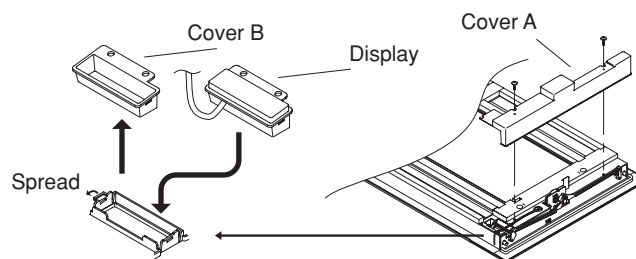

Fig. 11-13
- (1) Remove cover A from the rear side of the panel.
- (2) Cover B is fit inside cover A. Therefore, spread cover A and remove cover B, as shown in Fig. 11-13.
- (3) Fit the display into the panel.
- (4) Pass the display lead wire through the notch in the panel. Use the hole in the plate and a clamp to fasten the wire in place.
- (5) Reattach cover A.